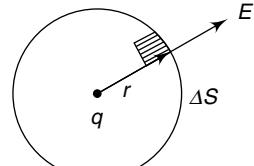

Fig. 1.13 ($+q$) charge is placed at the centre of a sphere (Ex. 1.6)
1.6 A charge q is placed at the centre of a sphere (Fig. 1.13). Taking the outward normal as positive, find the flux of the electric field through the surface of the sphere due to the enclosed charge.